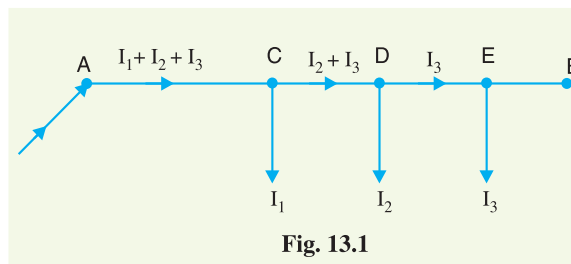

Fig. 13.1
- (i) **Distributor fed at one end.** In this type of feeding, the distributor is connected to the supply at one end and loads are taken at different points along the length of the distributor. Fig. 13.1 shows the single line diagram of a d.c. distributor AB fed at the end A (also known as *singly fed distributor*) and loads I_1 , I_2 and I_3 tapped off at points C , D and E respectively.
- (b) The voltage across the loads away from the feeding point goes on decreasing. Thus in Fig. 13.1, the minimum voltage occurs at the load point E .